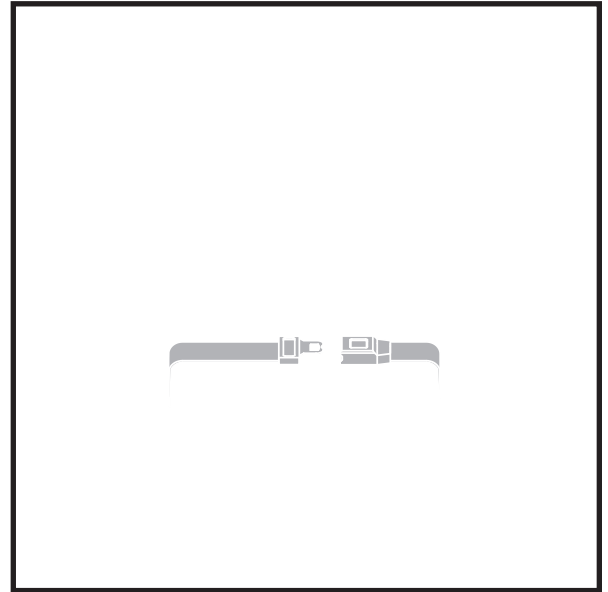

Figure 18. Positioning Belt Adjustment
Your power chair may be equipped with a positioning belt that can be adjusted for operator comfort. See figure 18. The positioning belt is designed to support the operator so that he/she does not slide down or forward in the seat. The positioning belt is not designed for use as a restraining device.
1. Once seated, insert the metal tab on one side of the belt into the plastic housing on the opposite side until you hear a click. See figure 18.